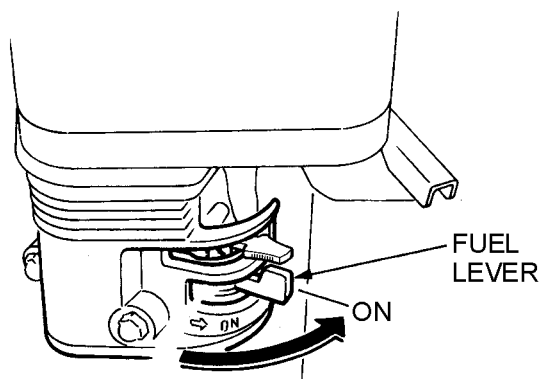

Figure 20. Engine Fuel Valve Lever (ON)
1. Place the engine fuel valve lever (Figure 20) in the "ON" position.